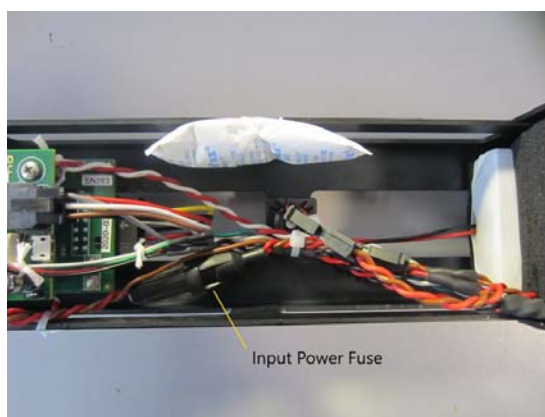

Figure 46: Input fuse wired in-line between the rear bulkhead and the Rockland Data Logger board for instruments with R01 or R02 RDL boards.
1. For the instruments equipped with a R01 or R02 P113 RDL board there is an input power fuse wired between the rear bulkhead and the Rockland Data Logger board (Figure 46). Check the fuse on a R01 or R02 can be done by opening the fuse holder and removing the cartridge fuse. The fuse is blown if the fine wire inside the glass body is broken, or if a measurement across the fuse indicates "open" on the multi-meter. For instruments equipped with the R03 P113 board there is a resetting fuse on the board. There is no in-line cartridge fuse in the wiring. If the instrument fails to turn on when the main battery is fully charged this fuse may have tripped. Wait 15 minutes for the fuse to reset before trying again. If the resetting fuse trips again there is a problem elsewhere in the electronics that is causing the high current draw. Contact Rockland for support.